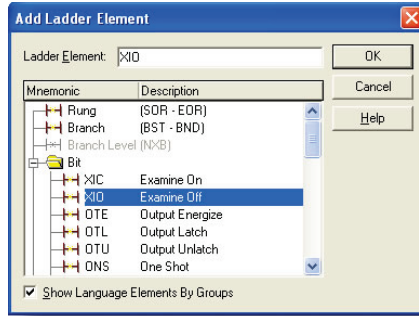

Figure 69: Adding an XIO Element
- c) Select the "XIO" element in the Bit folder. Refer to Figure 69.